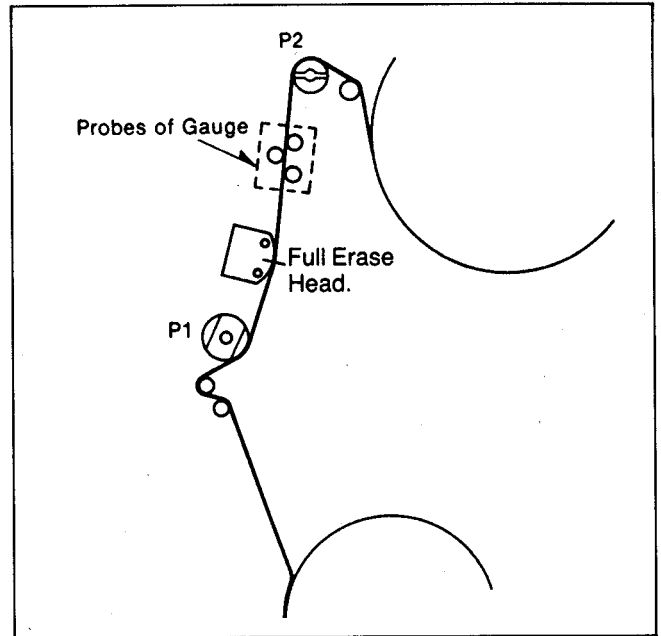

Fig. M2
2. Insert the Back tension Meter into the path of a tape, and measure the back tension to be within specification as shown in Fig.M2.